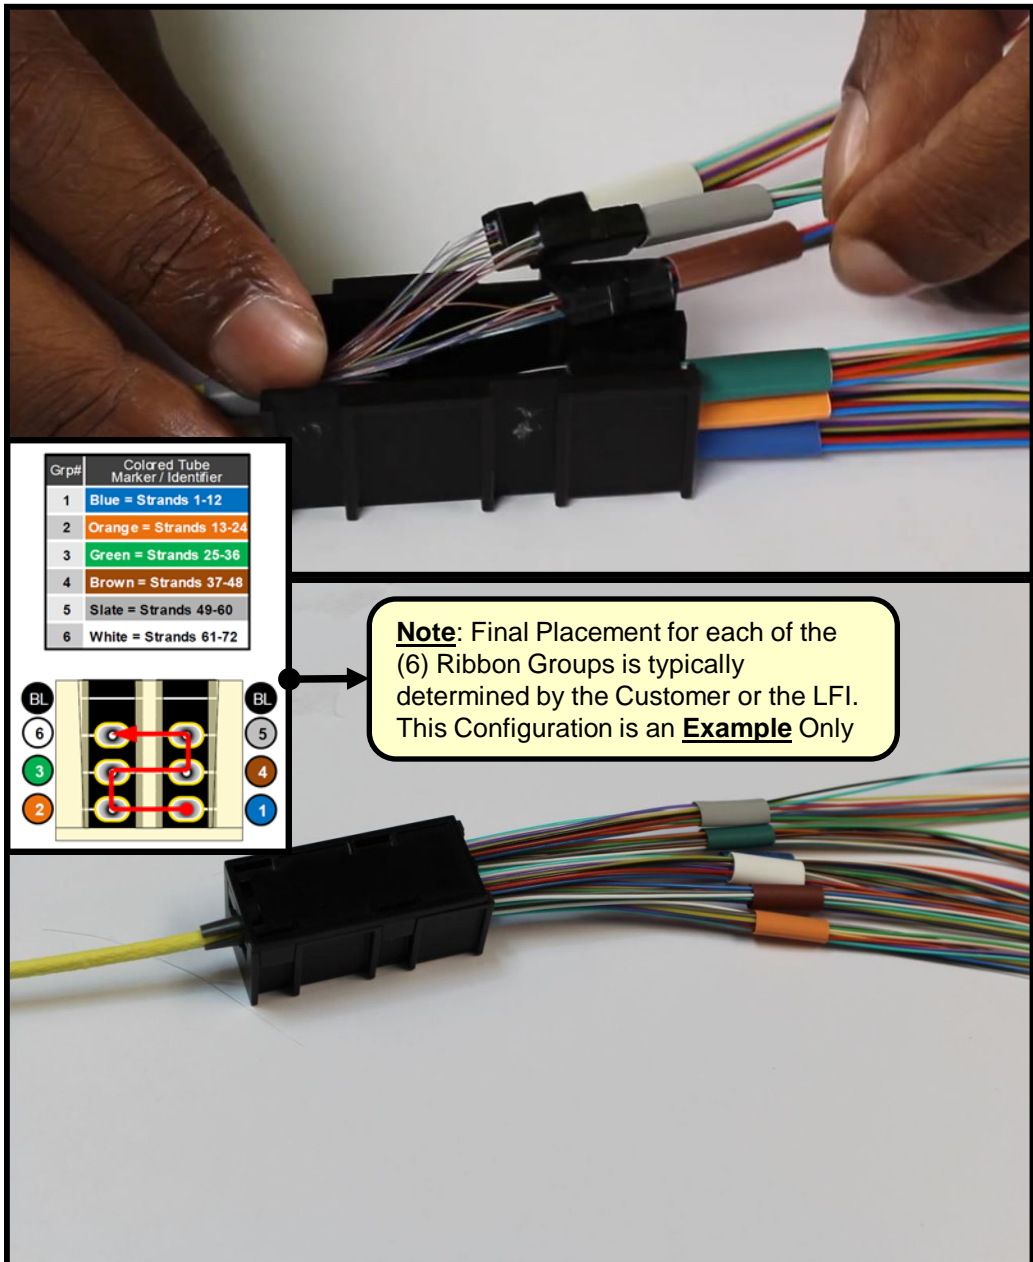

Figure 9
12 Fiber subunits are threaded through each tube, color-coded, then terminated using SEL splice on connectors. These units stack, one on top of the other, into the Base Unit cavities, 3 on each side with one blank on each side. (**See Fig. 9**)
7.10 Complete the FT72FBK Field Termination Kit assembly by snapping Cover Unit onto Base Unit. **see Fig. 9**.